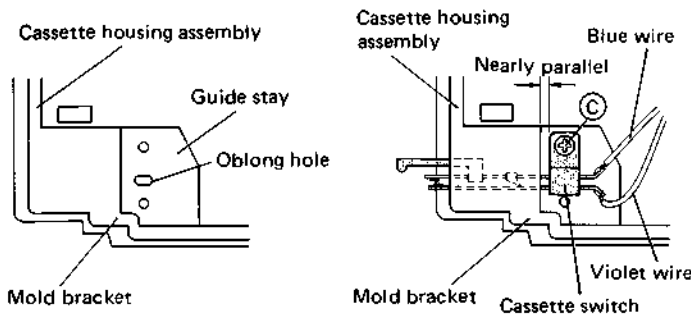

Fig. 4-6 Cassette switch replacement
2. Take out one screw (C) and remove the cassette switch toward the right. See Fig. 4-6.
3. When reinstalling the cassette switch, use care not to damage the contacts. Insert the cassette switch toward the left and engage the stud at the rear of the switch with the oblong hole of the guide stay. Position the switch so that is nearly parallel with the mold bracket, as shown in Fig. 4-6, then secure with screw (C).